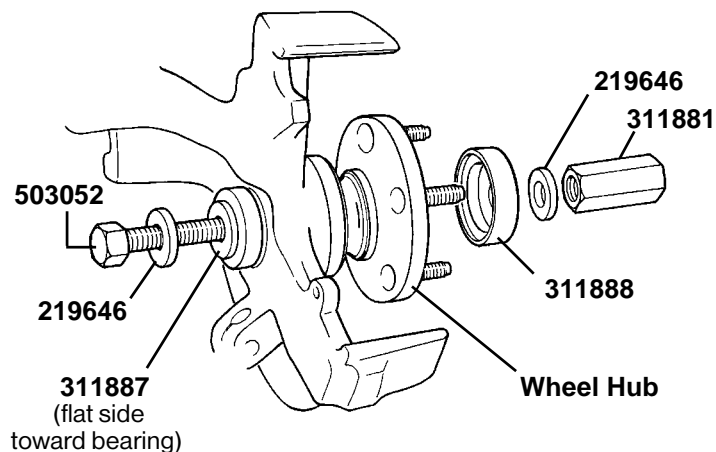

Figure 7
6. Assemble the tool components as shown in Figure 7, and install the hub. **Important: The bearing installer must be assembled with the flat side toward the bearing and the small diameter pilot on the side away from the bearing.**